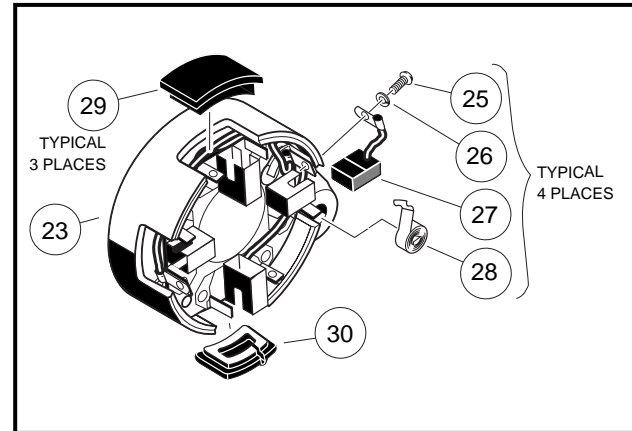
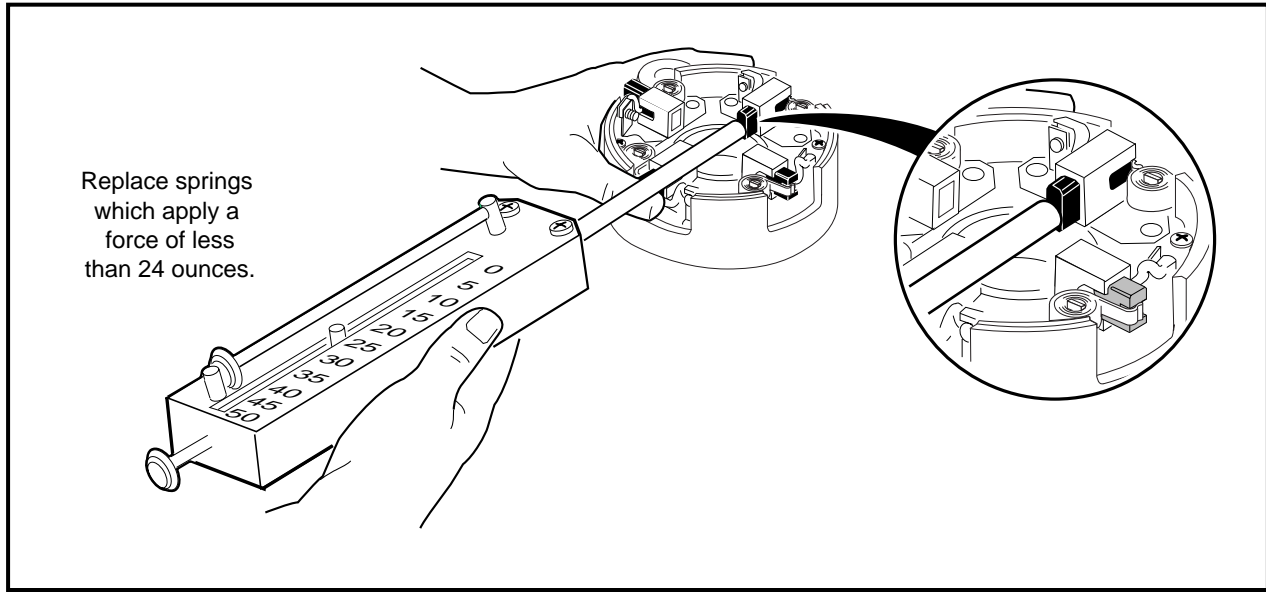

Figure 12-4 Brush Covers and Brushes
Figure 12-6 Brush Spring Tension Test
2. Remove brush covers (29 and 30), screws (25) and lockwashers (26), brush springs (28), and brushes (27) (Figure 12-4, Page 12-4). See following NOTE.
2. Install the four brushes (27) into their holders and insert the four brush springs (28) (Figure 12-4, Page 12-4). Using a spring scale, test brush spring tension. If any spring has a tension less than 24 ounces, replace all four springs (Figure 12-6, Page 12-5). See following CAUTION.
1. Connect the brush wires to the holders using four lockwashers (26) and four screws (25), making sure the crossover leads are connected also. Tighten the screws to 31 in-lb (3.5 N·m) (Figure 12-4, Page 12-4).
4. Push the brushes down into the holders. Position springs into the notches in the brushes. Install the brush cover (30) that has the drain hole in it next to the A2 terminal. Install the remaining three brush covers (29) in the openings in the commutator end cover (23) (**Figure 12-4, Page 12-4**).
10. Push the brushes down into the holders. Place springs into the notches in the brushes. Install the brush cover (30) that has the drain hole in it next to the A2 terminal. Install the remaining three brush covers (29) in the openings in the commutator end cover (23) **(Figure 12-4, Page 12-4)**.